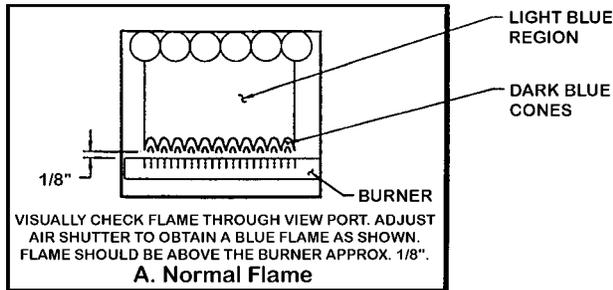

Figure 6. Burner Flame Characteristics
- Cause no excessive lifting of flame from burner ports; see Figure 6.